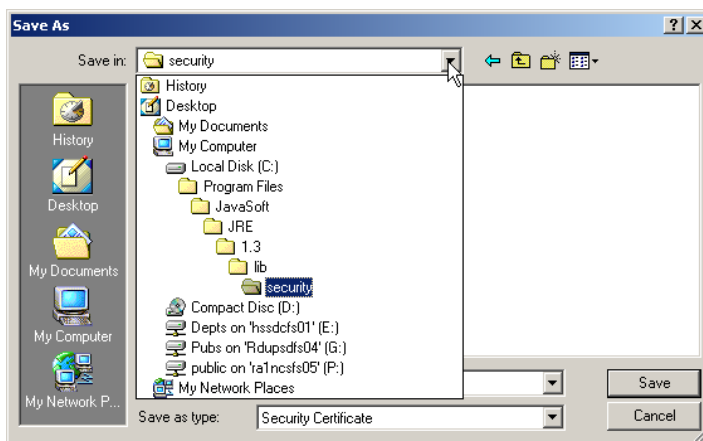

Figure 26. Save Menu
5. Specify the *lib\security* subdirectory in your Java Plug-in program folder for saving the certificate; then select **Save** (see Figure 26). The file begins downloading.